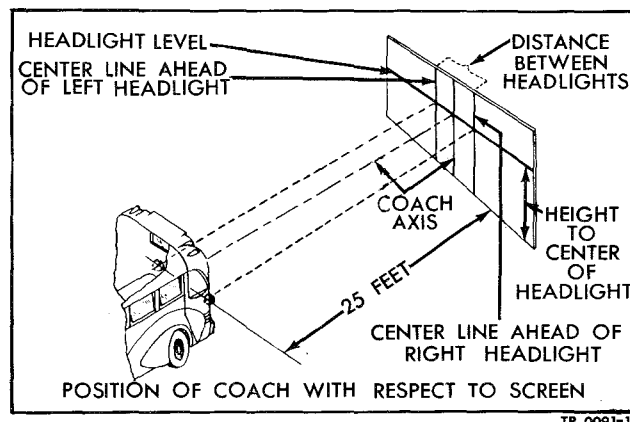

Figure 31—Headlight Aiming Chart
1. Position vehicle on level floor with headlights 25 feet from a vertical wall or door as shown in figure 31. Vehicle center line must be perpendicular to vertical surface.
2. Draw a horizontal line on vertical surface at height of light center as shown in figure 31. Locate a point on this horizontal line at which projected center line of chassis intersects. Measure distance between light centers and divide the distance equally on either side of center mark. Then draw a vertical line directly ahead of each light center as shown.